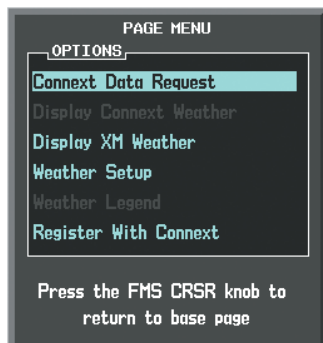

Figure 6-62 Weather Data Link (CNXT) Page Menu
- 3) With 'Connext Data Request' highlighted, press the **ENT** Key (Figure 6-62).